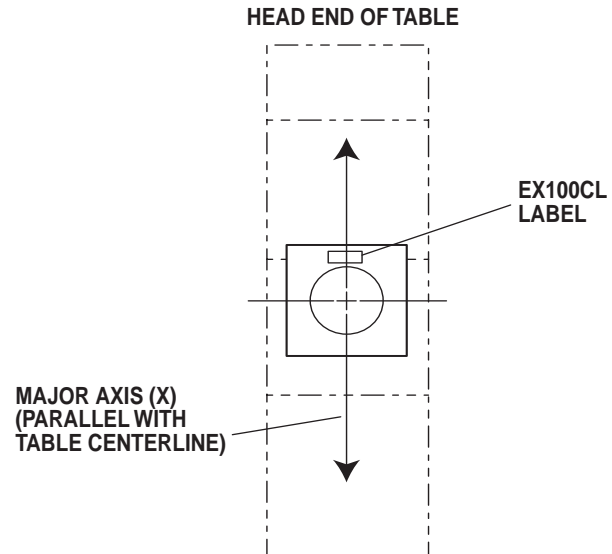

Figure 2.
3. Position the light beam as desired by using the joystick. See figure 2.